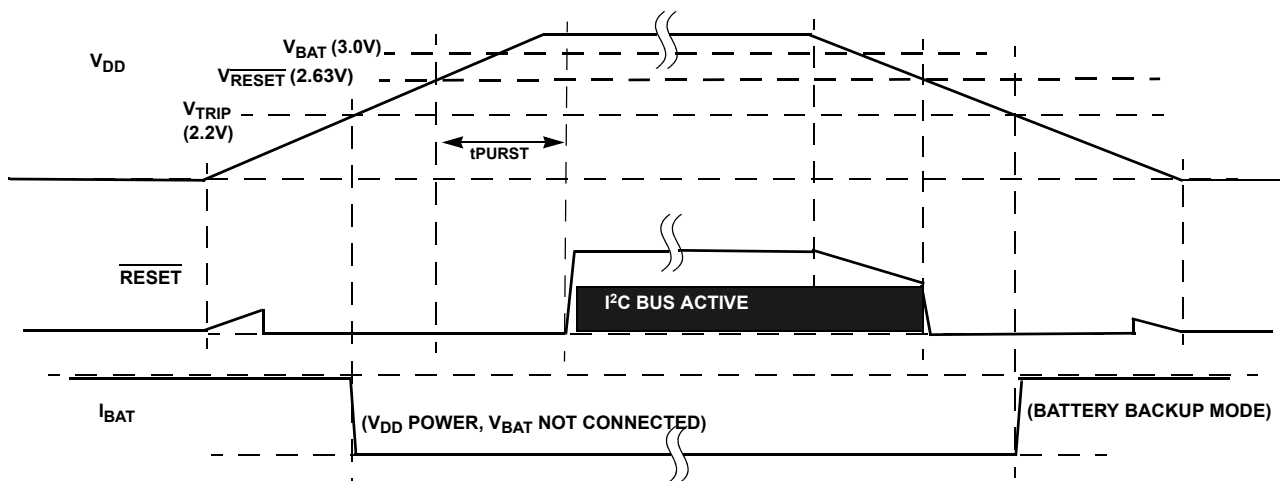

FIGURE 29. EXAMPLE RESET OPERATION IN MODE A OR C
- Mode A - In this mode, selection bits indicate a low VDD switchover combined with I2C operation in battery backup mode. In actuality the VDD will go below VRESET before switching to battery backup, which will disable I2C ANYTIME the device goes into battery backup mode. Regardless of the battery voltage, the I2C will work down to the VRESET voltage (see Figure 29).
- Mode C - In this mode, the selection bits indicate a low VDD switchover combined with no communications in battery backup. Operation is actually identical to Mode A with I2C communications down to VDD = VRESET, then no communications (see Figure 29).